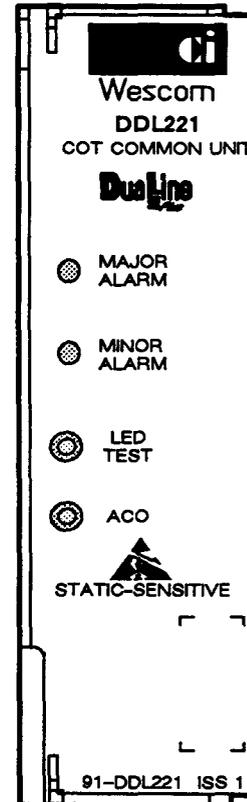

Figure 1. DDL221 COT Common Unit
1.01 This Practice provides a general description of the Wescom DDL221 DualLine Plus Central Office Terminal (COT) Common Unit (Issue 1). The DDL221 COT Common Unit is depicted in Figure 1.